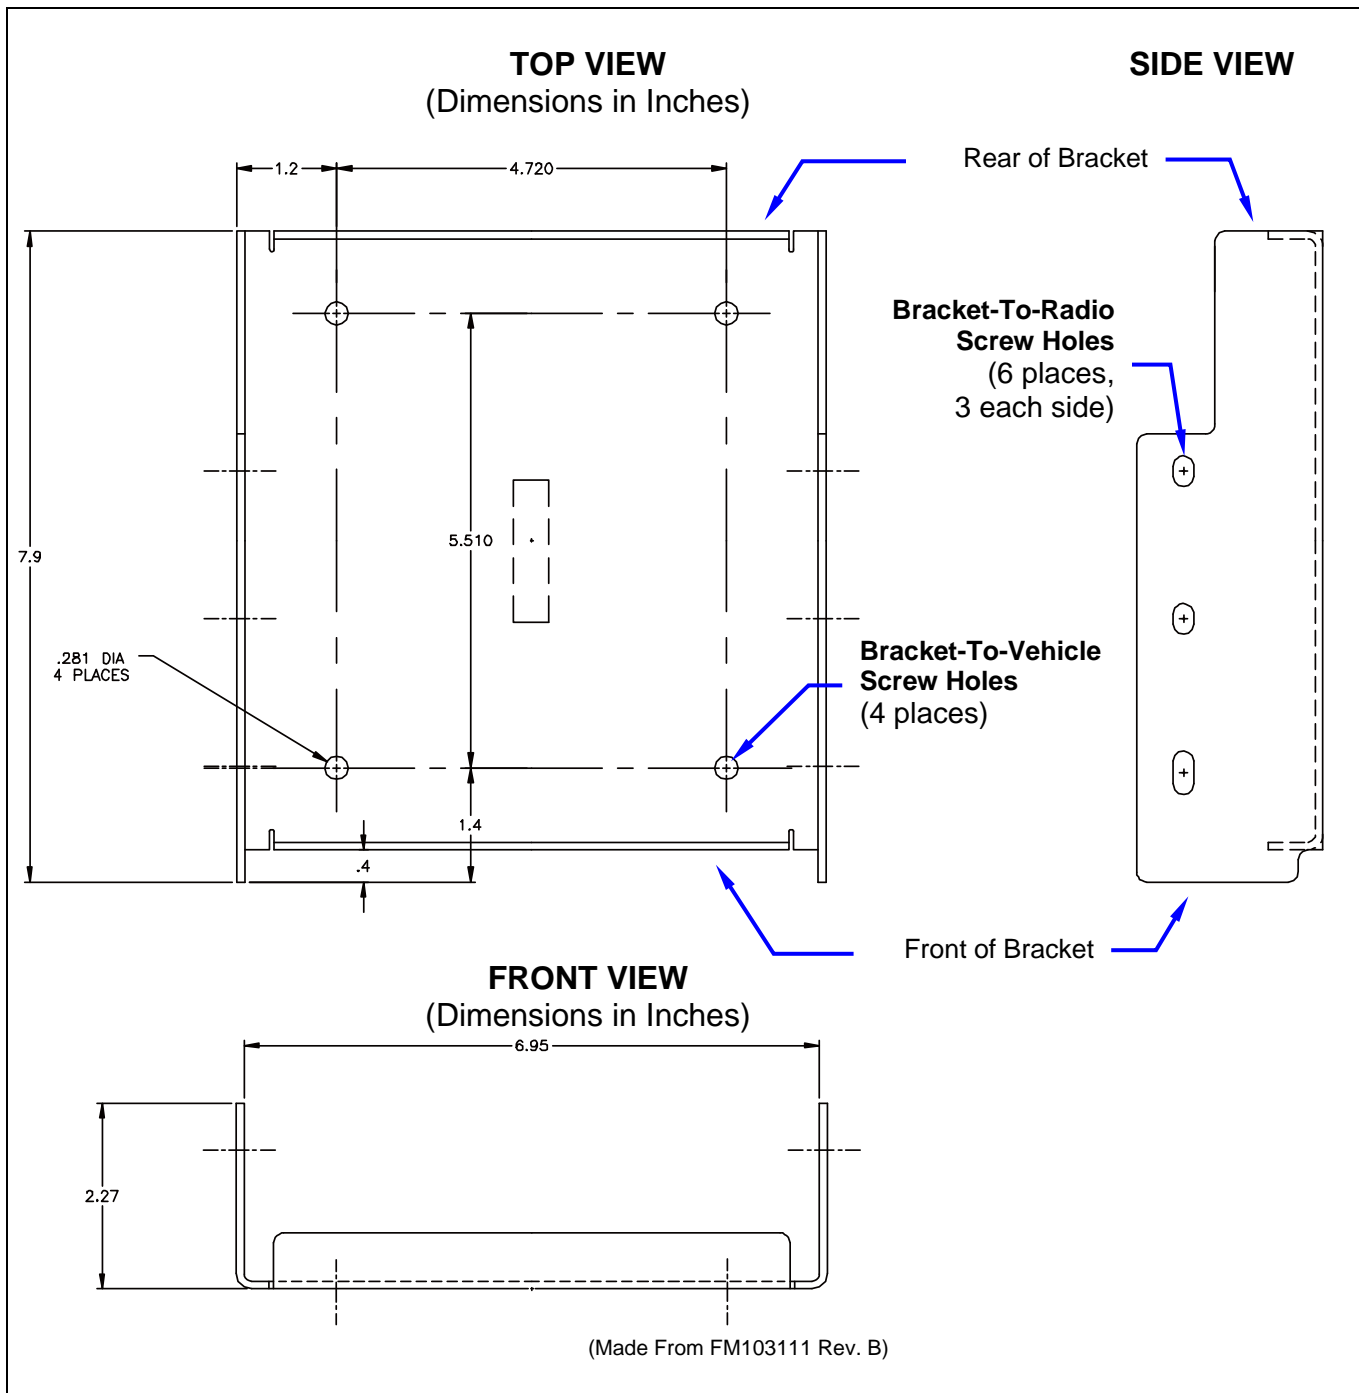

Figure 8-3: Mounting Bracket FM10311V1 Dimensions
As illustrated in Figure 8-3, the bracket is left-to-right symmetrical and the shortest portion of its side rails are at the rear.
1. Using the mounting bracket as a template, and/or the dimensional information shown in Figure 8-3, mark and drill four (4) mounting holes into the mounting surface as required per the type of hardware used. When the radio is installed in the bracket, it will extend approximately one (1) inch past the front edge bracket, and at the rear, it will extend approximately ½-inch past the rear edge of the bracket. This distance at the rear does not include space required for cable connections at the rear of the radio. As previously stated, a clearance of least four (4) inches (approximately 10 centimeters) at the rear of the radio is recommended.